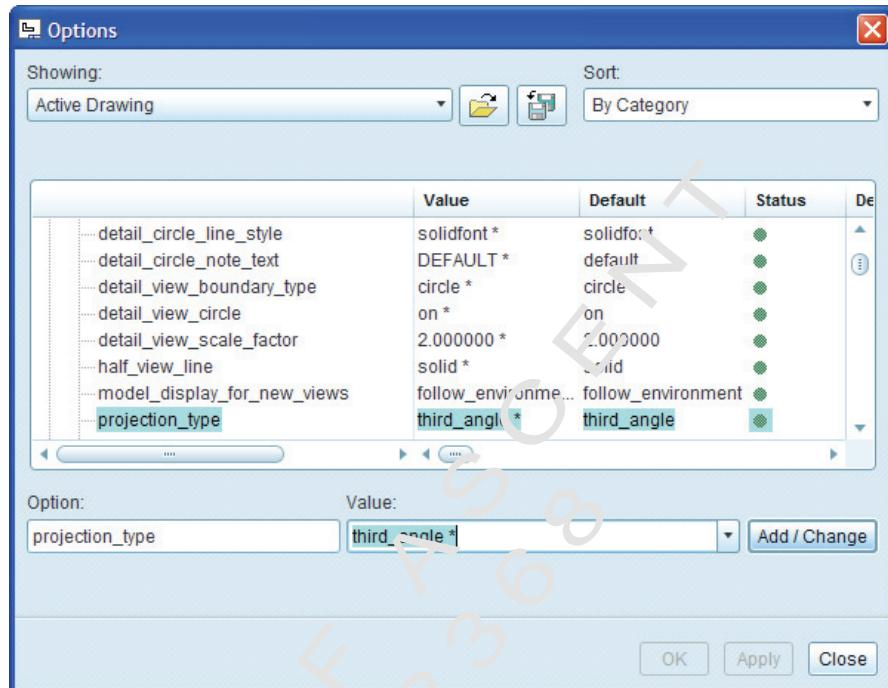

Figure 1–54
3. Select the *projection\_type* option and ensure that it is set to **third\_angle**. This is the default option. The Options dialog box appears as shown in Figure 1–54.